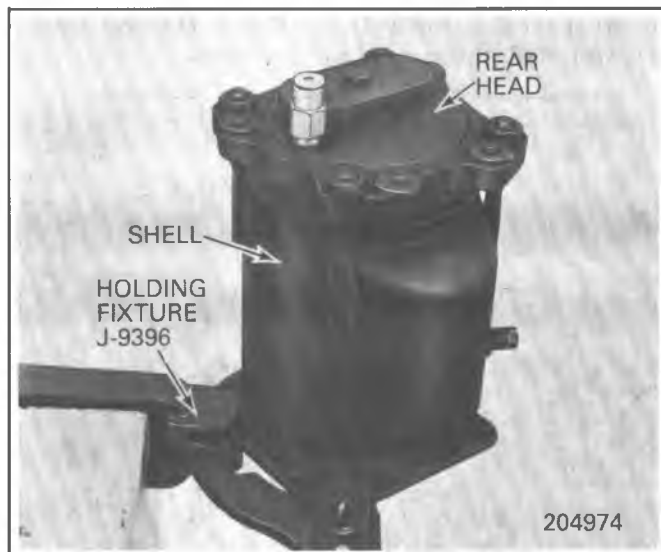

Fig. 1D-24 A-6 Compressor Installed in Holding Fixture
3. Invert compressor and Holding Fixture J 9396, with front end of compressor shaft up, suction - discharge ports now facing downward (Fig. 1D-24).